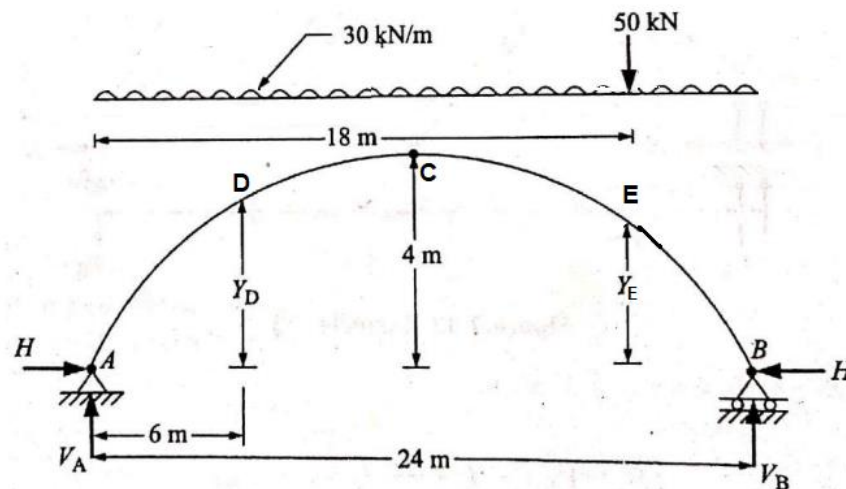

Figure Q3
- b) A **three-hinged** parabolic arch hinged at the supports and at the crown has a span of **24 m** and a central rise of **4 m**. It carries a concentrated load of **50 kN** at **18 m** from the left support and a uniformly distributed load of intensity **30 kN/m** over the entire span as shown in **Figure Q3**. Find the support reactions at the abutments/supports **A** and **B**, and the bending moments at the point load **D** and **E** (point load). Also draw the bending moment diagram for the arch (drawing not to scale). (8 marks)